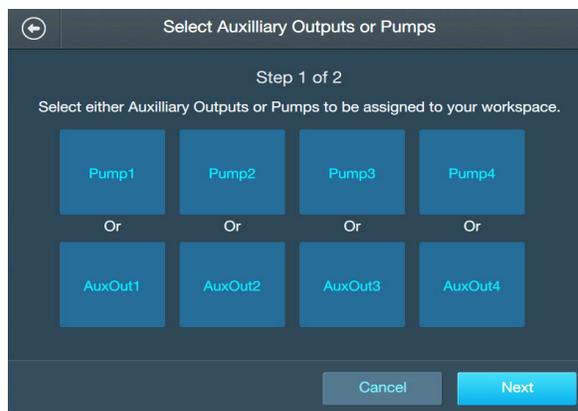

Figure 8. Selecting pumps and/or auxiliary outputs
- The “Select Auxiliary Outputs or Pumps” screen that appears allows the user to select a combination of four pumps and/or auxiliary outputs (Figure 8). Touch the pumps and/or auxiliary outputs you would like to use to add them to your home screen. To deselect a pump or auxiliary output, touch the button again. When you are finished, touch “Next.”